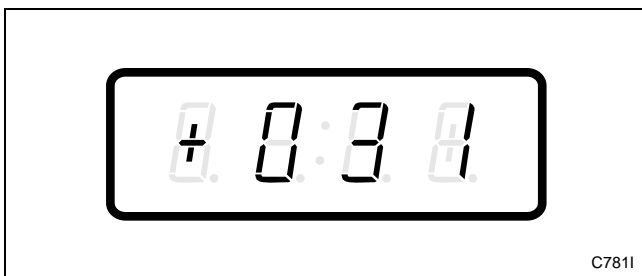

Figure 98
3. Press the DELICATES (+) or the COLD (-) keypad to scroll through the programmable options until “+031” appears in the VFD. Refer to *Figure 98*.